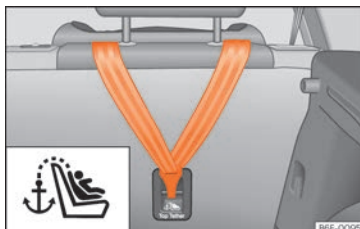

Fig. 39 Rear part of the rear seats: securing rings for the Top Tether strap.
- Slide the strap and secure it properly with the anchorage of the backrest »» **Fig. 39**.